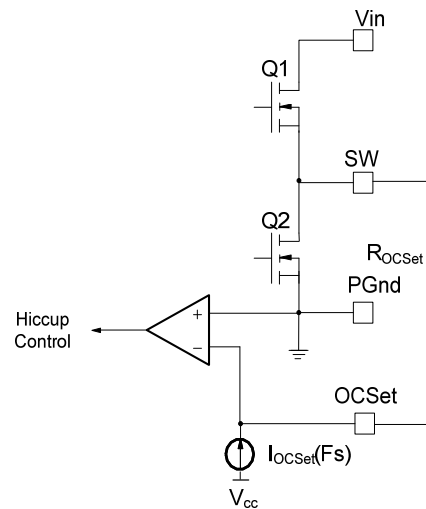

Fig. 7. Connection of over current sensing resistor
The over current protection is performed by sensing current through the  $R_{DS(on)}$  of low side MOSFET. This method enhances the converter’s efficiency and reduces cost by eliminating a current sense resistor. As shown in figure 7, an external resistor ( $R_{OCSet}$ ) is connected between OCSet pin and the switch node (SW) which sets the current limit set point.